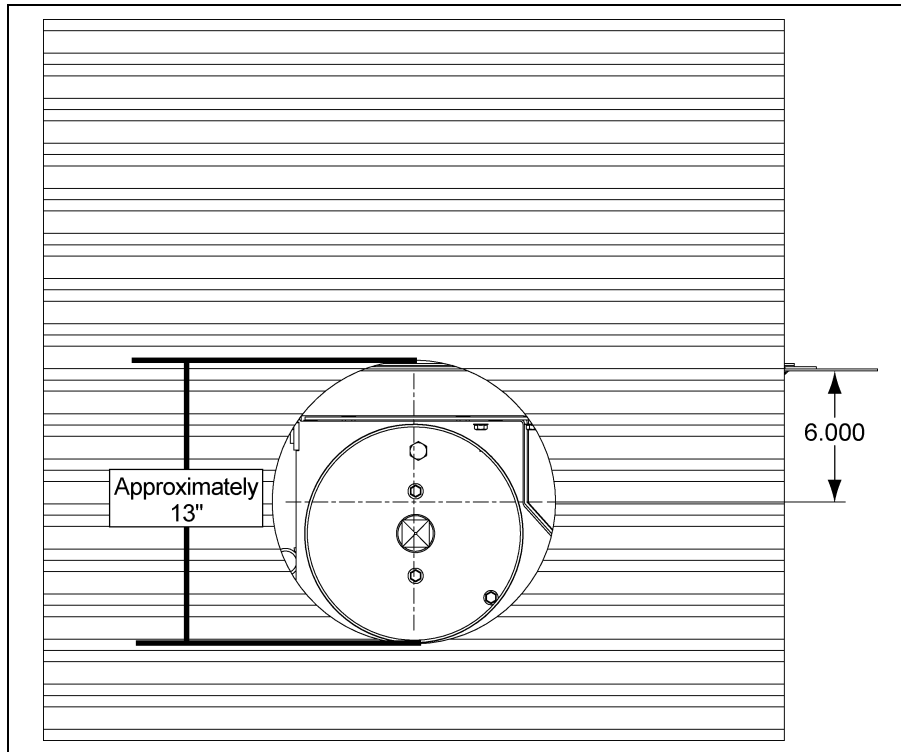
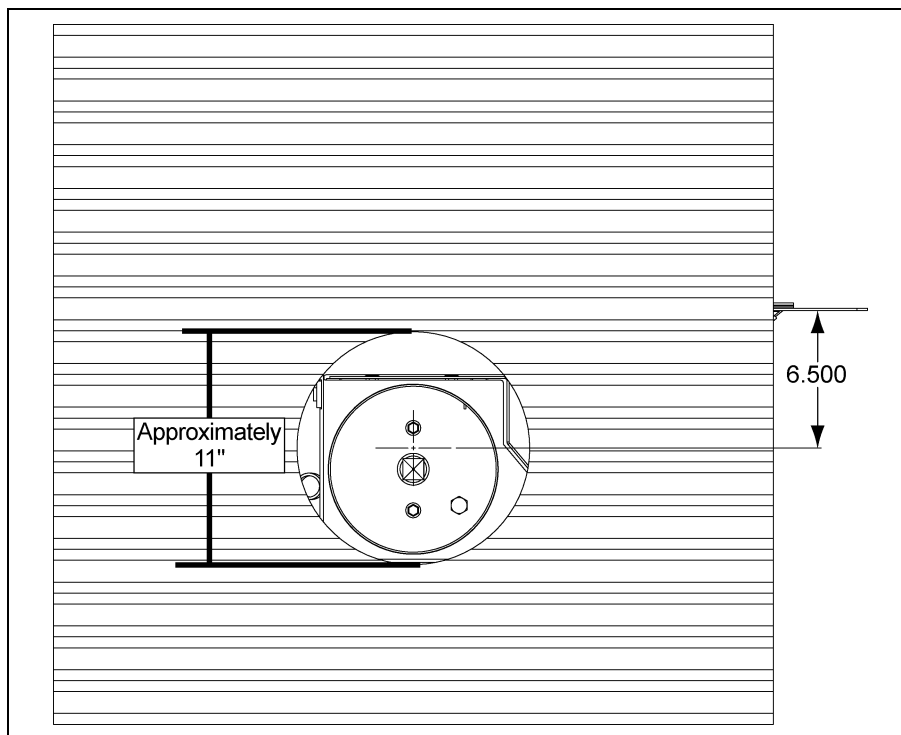
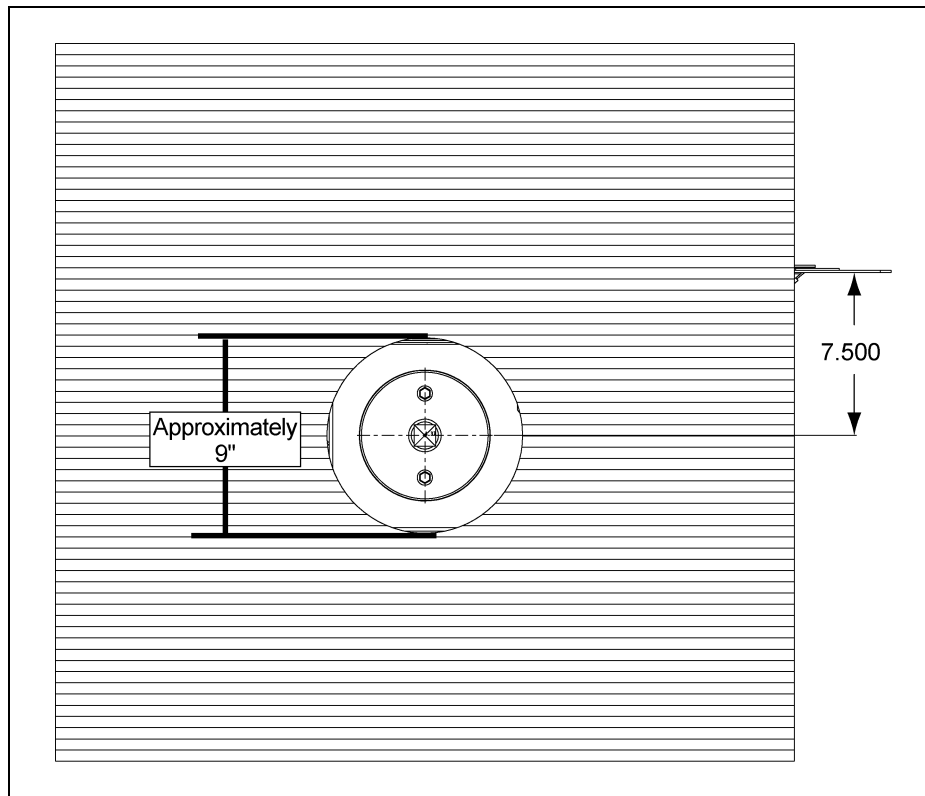

Figure 4E 10" Tube
Figure 4F 8" Tube
Figure 4G 6" Tube
1. Cut an opening in the bin wall for the unloading tube to pass through. *See Chart below* for hole information. Additional views of the holes can be found in *Figure 4E*, *Figure 4F* and *Figure 4G*.